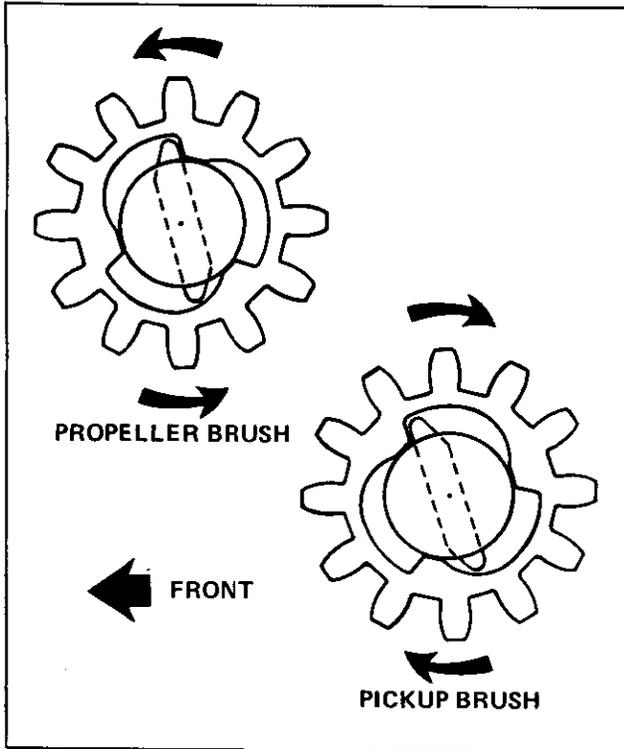

Figure 8A Correct Gear and Pawl Installation
5. The pawls and pinion gears must be installed as illustrated (Figure 8A and 8B) to function properly.